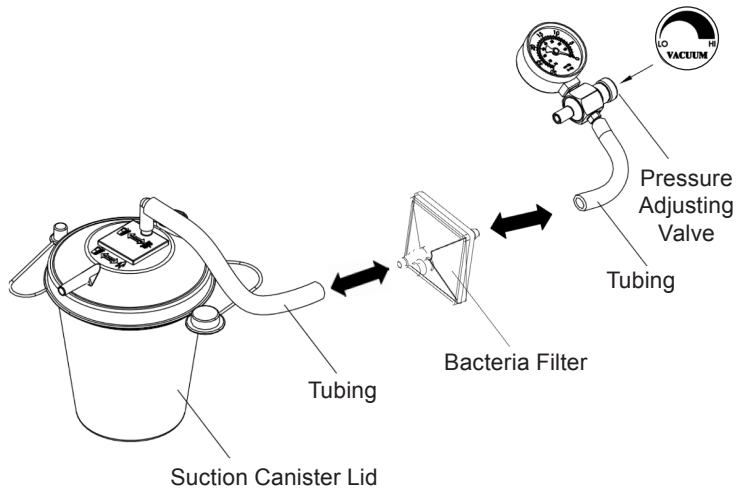

Figure 6
1. Connect either end of the 6" silicone tubing to the top of Suction Canister connector, then connect the other end to the bacteria filter. Use the other 6" silicone tube to connect the bacteria filter to the Suction Unit (Figure 6).
2. Disconnect the filter from pressure adjustment knob tubing and the Suction Canister lid tubing (Figure 6).